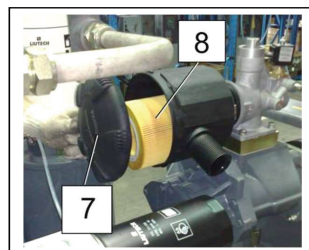

FIG. 17a
- Remove the cover Ref. 7 Fig. 17a.
- Remove the filter Ref. 8 Fig. 17a.